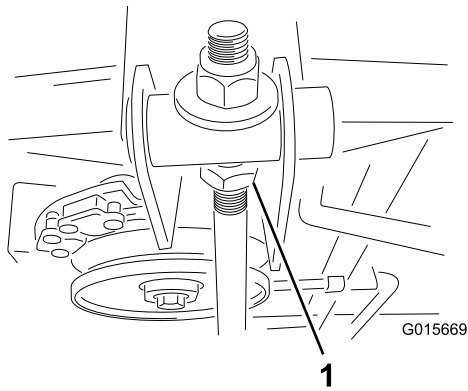

Figure 42
7. Loosen the jam nut (Figure 42).